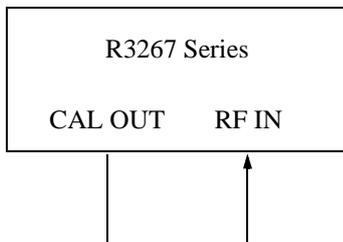

Figure 6-3 Setup of Modulation Accuracy for EDGE
1. Connect equipment as shown in Figure 6-3.